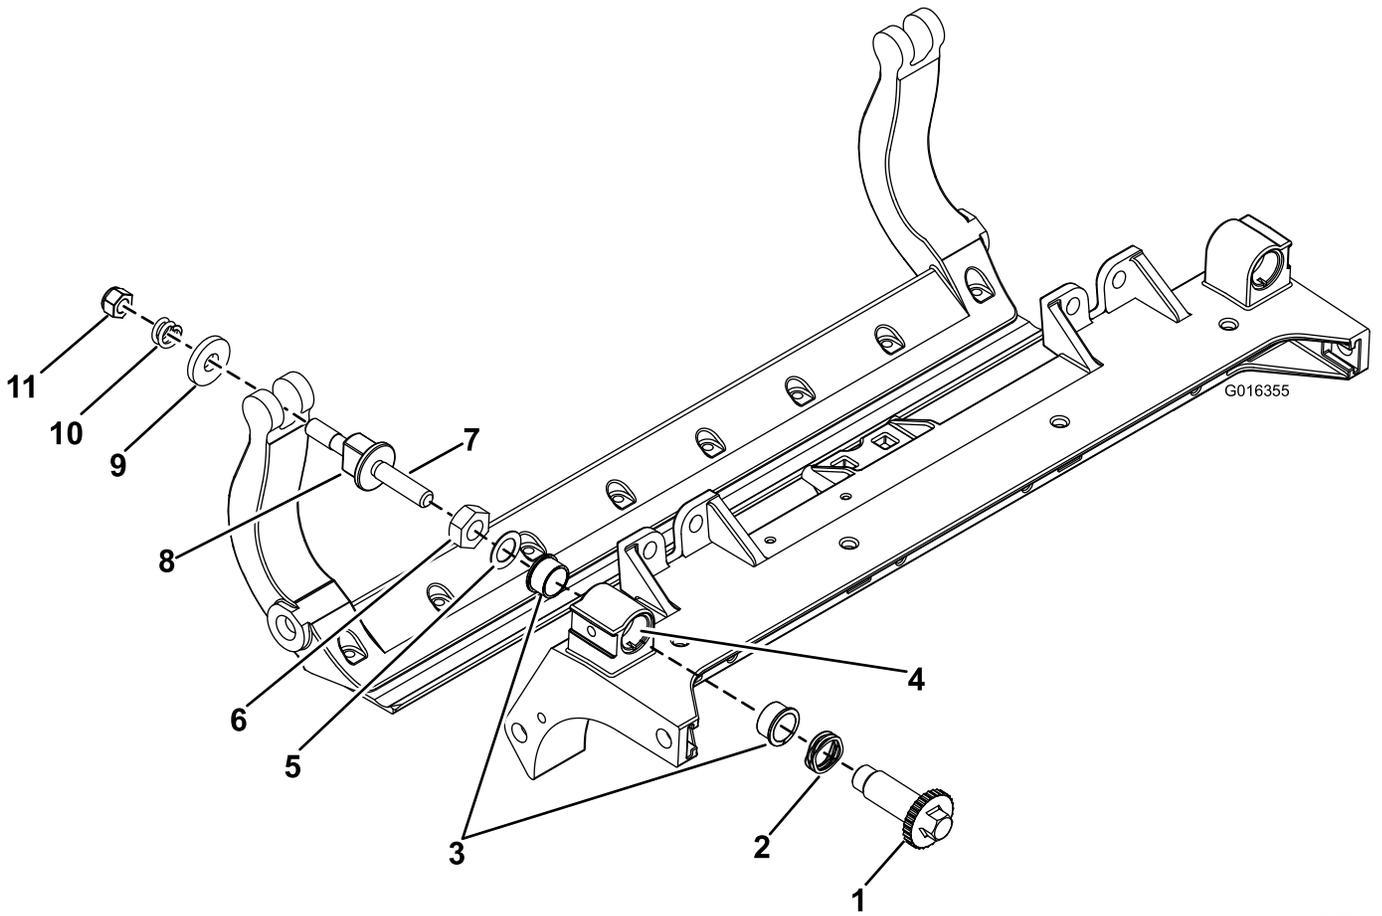

Figure 33
1. Remove all parts; refer to *Installation Instructions* for HD DPA Kit Model 120-7230 and to Figure 33.
2. Apply anti-seize compound to the inside of the bushing area on the center cutting unit frame (Figure 33).
3. Align the keys on the flange bushings to the slots in the frame and install the bushings (Figure 33).
4. Install a wave washer onto the adjuster shaft and slide the adjuster shaft into the flange bushings in the frame of the cutting unit (Figure 33).
5. Secure the adjuster shaft with a flat washer and a locknut (Figure 33). Torque the locknut to 20 to 27 N·m (15 to 20 ft-lb).
- B. Place a steel washer outside each of the nylon washers (Figure 33).